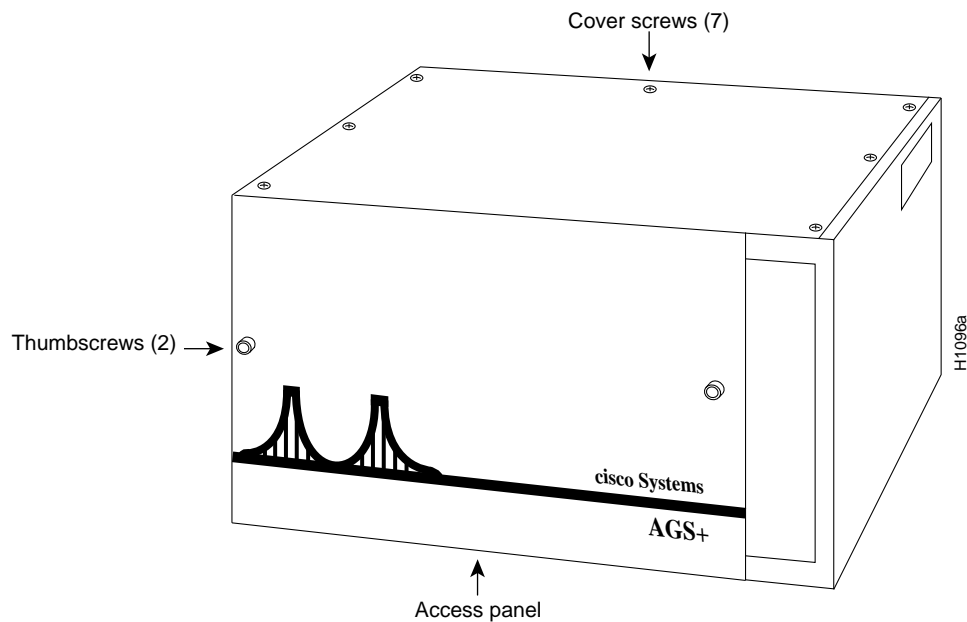

Figure 3 Chassis Front and Top Panels
- Step 5** To access cards in the card cage, loosen the two thumbscrews and remove the front panel from the chassis. (See Figure 3.) If you wish to access cards in the card cage only, skip the next step.
- Step 6** To access other system components, locate and remove the seven No. 1 Phillips screws securing the top cover. (See Figure 3.) Set the top cover and screws aside.